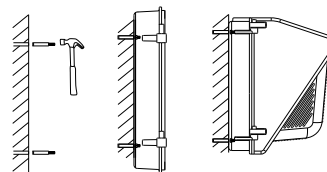

Figure 8
3. Get expansion screws into the holes, match the fixture to the bolts, then fix the fixture on the wall by screws, lastly get the PC cover and fixture housing back together. (Figure 8)